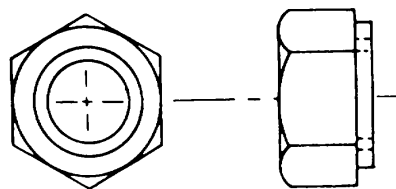

Figure 2-28. Airframe Plain Nut
*j Airframe Plain Nuts.* Use airframe plain nuts AN315, as shown in figure 2-28, in structural application. An auxiliary locking device, such as a checknut, or a lockwasher, is required when this type nut is used.